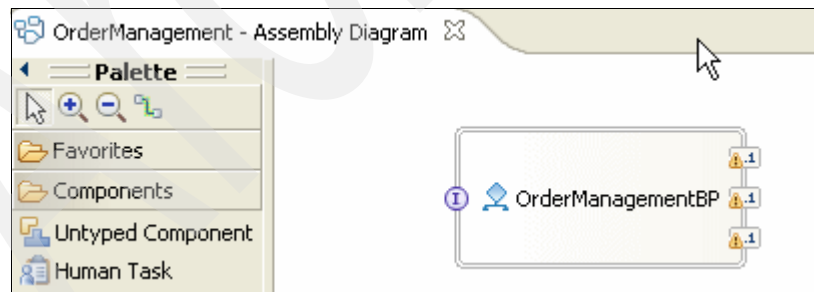

Figure 3-44 OrderManagement's assembly diagram
**Note:** Warning symbols display on the three references as shown in Figure 3-44.